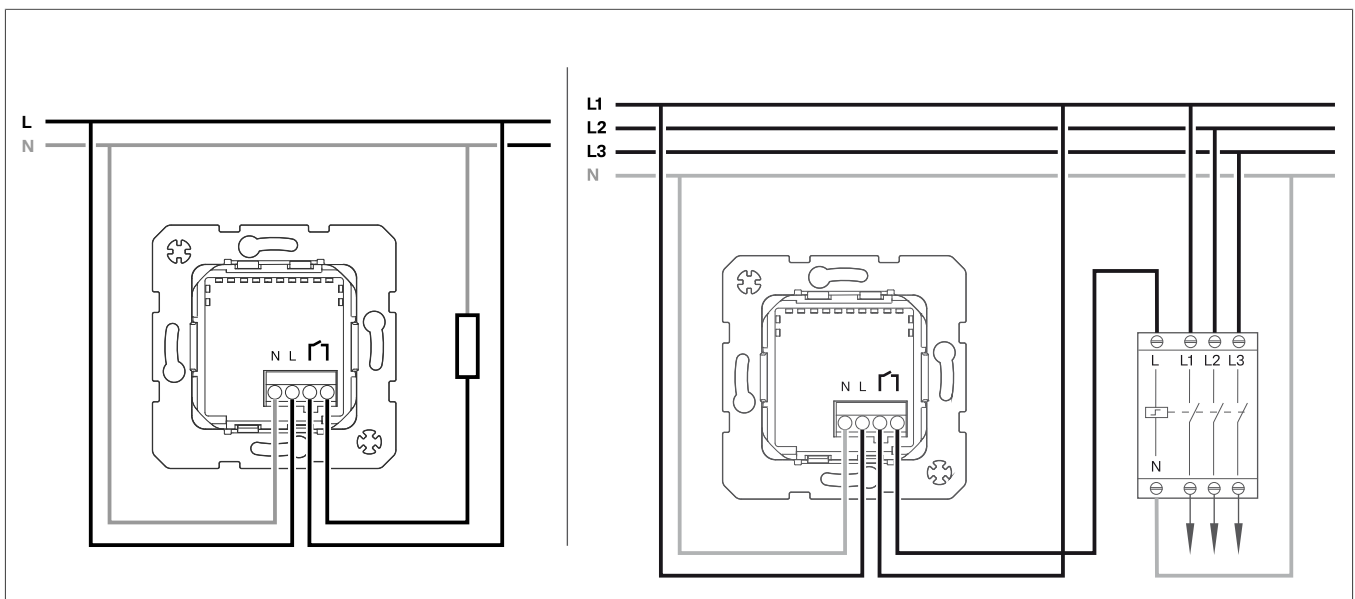

Fig. 3: Connection diagram
- 1 Connect the relay switch insert (1) in accordance with the connection diagram (Fig. 3).
Observe the permissible connected load. If necessary, use load contactor (Fig. 3).